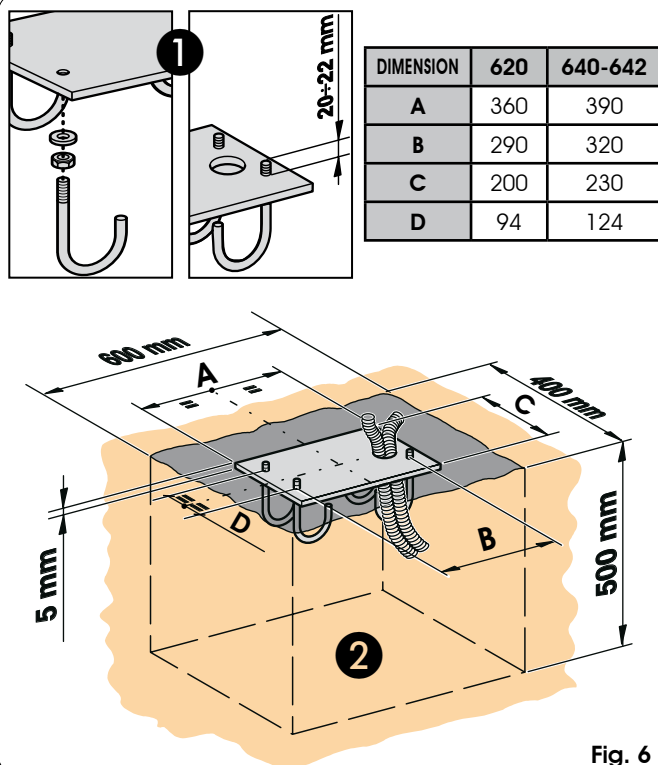

Fig. 6
- 1) Assemble the foundation plate as in fig.6. ref. ①
- 3) Wall the foundation plinth as shown in fig.6. ref.②, supplying one or more sheaths for routing electrical cables. Using a spirit level, check if the plate is perfectly level. Wait for the cement to set.